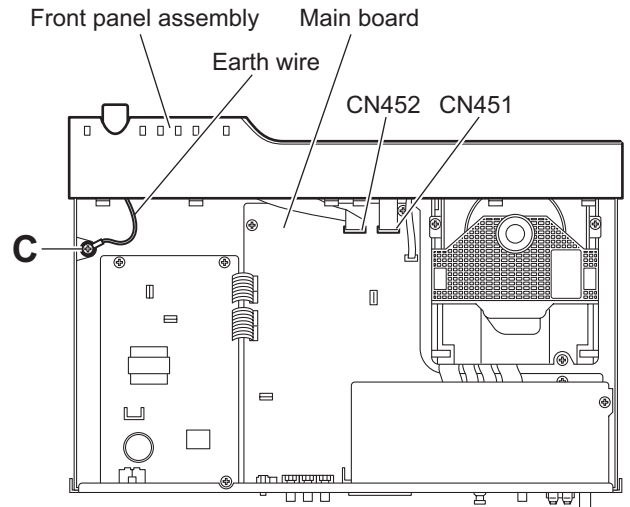

Fig.4
### 3.1.2 Removing the front panel assembly (See Figs.4 and 5)
- (1) From the top side of the main body, disconnect the parallel wires from the connectors CN451 and CN452 on the main board. (See Fig.4)
- (2) Remove the screw **C** attaching the earth wire to the main board. (See Fig.4)
When attaching the screw **C**, attach the earth wire with it. (See Fig.4)